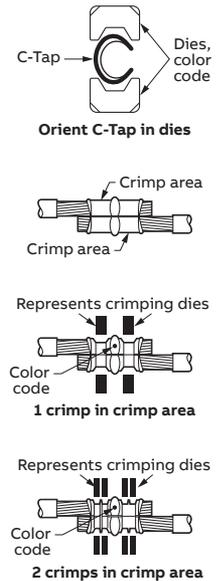

Figure 3
5. Orient and compress C-Tap with appropriate color coded dies, see Figure 3 and Table 2 & 3 on reverse side. **⚠ Caution: Use of improper installing die may result in a malfunctioning connection.**